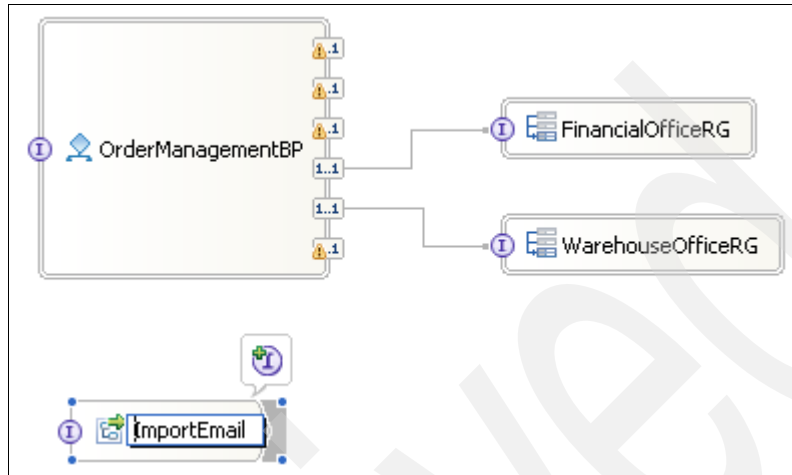

Figure 3-243 Assembly diagram with e-mail import
4. The import component displays on the assembly diagram. Change the name, prior to saving, to `ImportEmail`, as shown in Figure 3-243. Otherwise, you need to refactor to change the name.